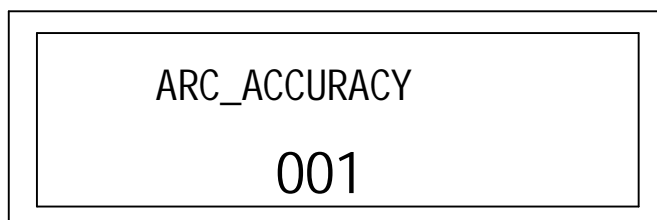

Fig. 21: ARC_ACCURACY setup.
16). ARC_ACCURACY: arc voltage accuracy. Fig.21.